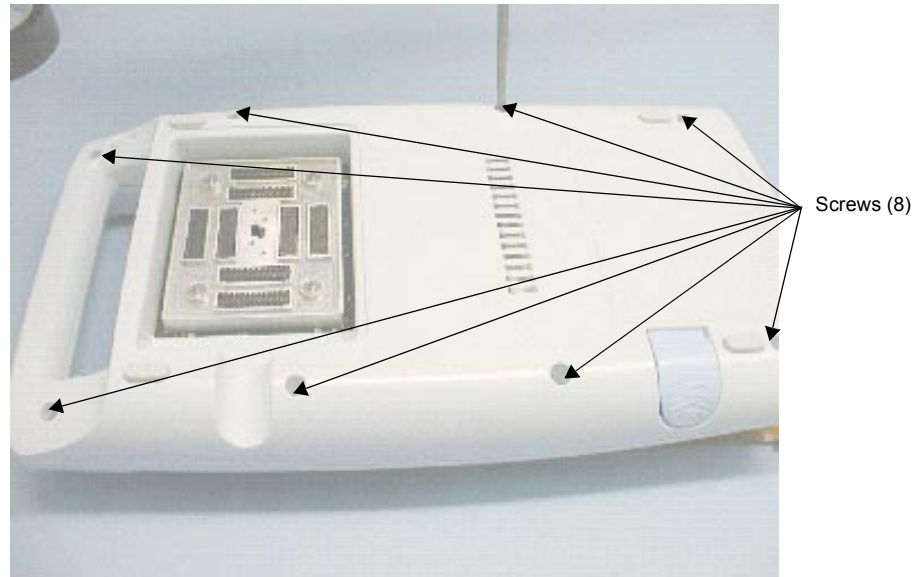

Figure 7.18 Removing the Bottom Housing from the Top Housing
- 3 Remove the eight screws securing the bottom housing to the top housing using a #1 Phillips screwdriver (Figure 7.18).